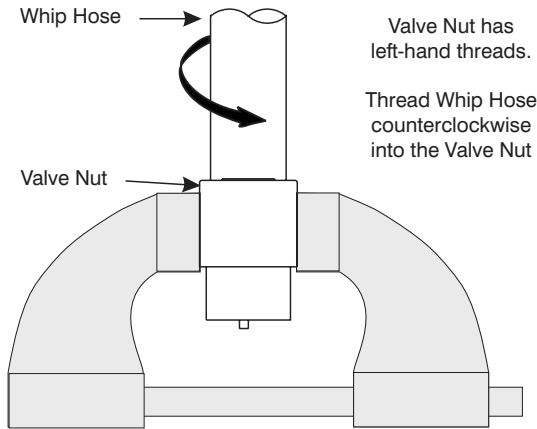

Figure 9-14. Valve Nut and Hose in Vise
2. With its larger internal bore (hose end) facing up, clamp the Valve Nut (12) in a vise, as shown in Figure 9-14.